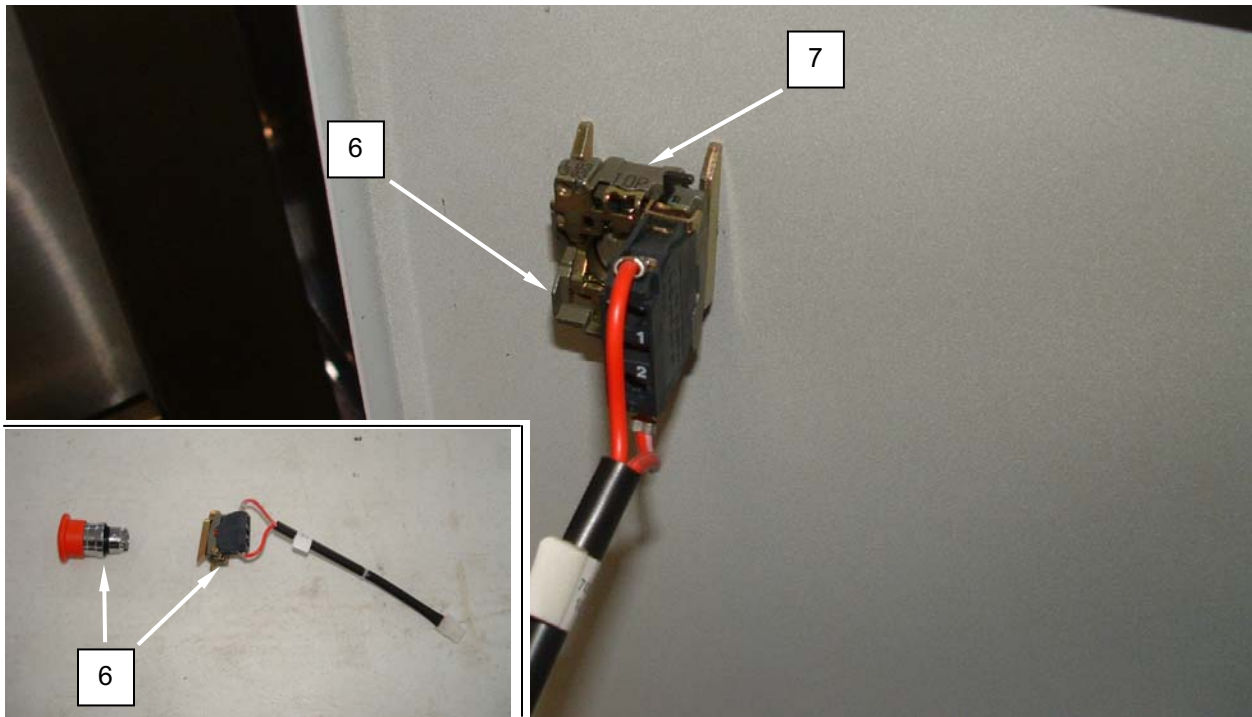

Figure 4. Replace the Dryer Emergency Stop Switch.
6. Tag and disconnect wiring from switch (**Figure 4, Item 6**).
7. Remove switch (**Figure 4, Item 6**) by lifting switch release lever (**Figure 4, Item 7**) and separating the two switch halves.
8. Install replacement switch (**Figure 4, Item 6**).